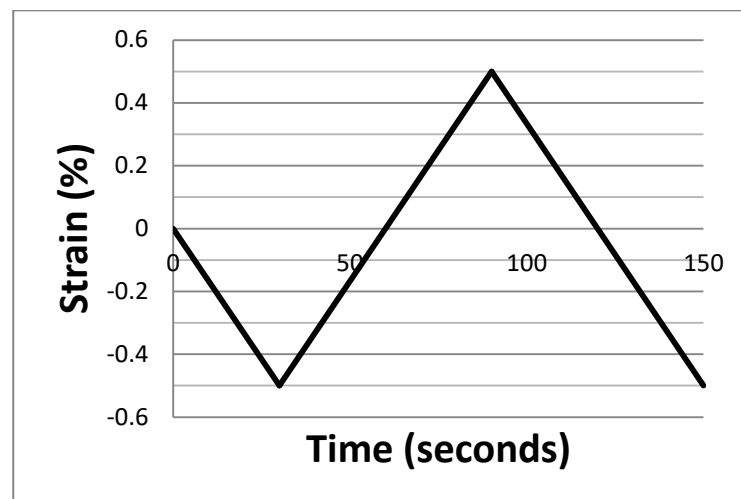

Figure Q2[a]
- Q2. [a] A steel has Young's modulus E of 30 GPa and elastic limit σ_y of 300 MPa. Figure Q2[a] shows strain inputs of cyclic test with the values of stresses at bottom and peak of the cycle are -500MPa and 500MPa respectively. With the aid of stress (MPa) vs strain (%) graphs as the responses for the strain inputs, sketch the response of the steel under cyclic compression-tension loading using elastic-nonlinear hardening deformation model. Please state the values of stress-strain at the intervals between elastic and plastic deformation.